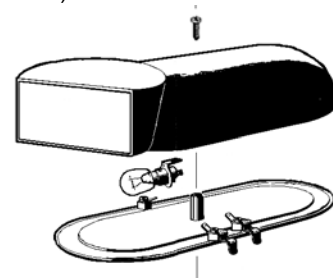

figure 18
- 3 Replacement of lighted top cover bulb: remove the fixing screw placed in the upper part of the top cover, remove the lower part and replace the bulb (using a 24-28V 21W max bulb). Reassemble the top cover and replace the fixing screw.(see figure 18)